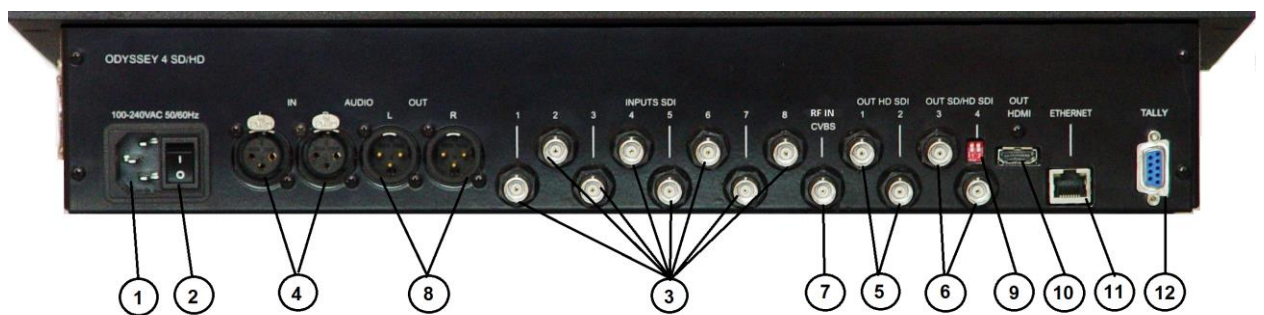

Figure 1.
1.2. Destination of connectors (Fig. 1)
Is made through the power supply connector **POWER 220V** on the rear panel (1 on Fig. 1). Connection must be made to a socket with a ground contact. Before this, it is necessary to make sure that the power switch button (2 on Fig. 1) is in **O (OFF)** position .
It is possible to connect 8 non-synchronous sources of HD or SD SDI video signals (BNC connectors - **3** on Fig. 1) . On SD mode it is possible to mix between SD and HD video signals. It is possible to use synchronous sources also. In this case mixer is passes to the slave mode from a signal of external synchronization through **RF IN** (socket **7**, fig. 1) from the BBG (Black Burst Generator, PAL) for SD mode or three-level for HD mode. As sources of video it is possible to use slides (loaded earlier from external PC static images), color **BARS** (**4**, fig. 2) and black field (**BLACK**) (**3**, fig. 2), presented by separate buttons on mixers buses.
Connection of analogue audio sources (two mono or one stereo.) is carrying out through **AUDIO IN (L/R)** sockets (two XLR sockets - **4**, fig. 1).
There are four video outputs (**HD SDI OUTPUT** , **SD/HD SDI OUTPUT**) (BNC sockets -5 and 6, Fig. 1). Two of them (5, Fig.1) are use only in HD mode. The rest (**6**. Fig.1) can be SD or HD –reassign in menu.
Output of the generated analogue program audio signals (two mono or one stereo) is carried out through **AUDIO OUT** sockets (8, fig. 1)
The Preview FullHD monitor connected through **HDMI OUT** socket (10, Fig.1) working in multiviewer mode for preview video sources, Program and Preset video signals, audio level monitoring, service information - source markers, current mode, clock etc.
ETHERNET socket (11, fig. 1) is used for connection with Ethernet network for loading and updating of new firmware, loading of pictures (slides) and logos from external computer, systems configuration, installations of not operative parametres, installations of system time, remote control from external computer through the virtual keyboard and also in playout systems etc.
Through the **TALLY** socket (12, fig. 1) (8 keys) the alarm Tally bulbs are connected for displaying which active videocamera on air .
Set the power button on the rear panel (**2** on Fig.1) to the **I** position to switch on the mixer. The mixer operation system (**OS**) begins to loading. During the OS loading (about 20 seconds) it is not recommended to perform any operations.